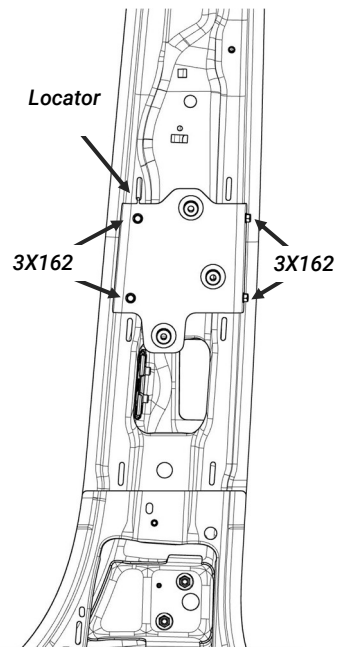

Figure 1
- B. Place the Passenger B-pillar Bracket [3PAK572110] against the vehicle B-pillar with the locator tab in the bottom of the slot indicated in Figure 1. Ensure that the seatbelt is underneath the bracket.
- C. Secure the B-pillar bracket in place with a 3/8" socket and (4) self drilling screws [3X162]. The holes can be pre-drilled with a 3/16" drill bit if necessary.